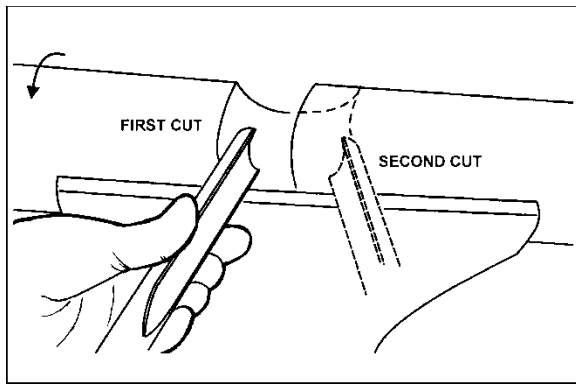

Figure 10-7: Coves
1. Use a spindle gouge. With the flute of the tool at 90 degrees to the workpiece, touch the point of the tool to the workpiece and roll in towards the bottom of the cove. See Figure 10-7. **Stop at the bottom; attempting to go up the opposite side may cause the tool to catch.**